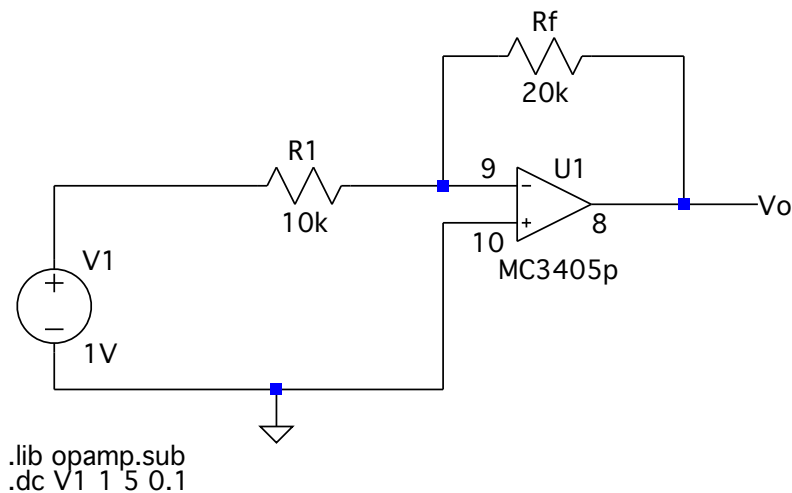
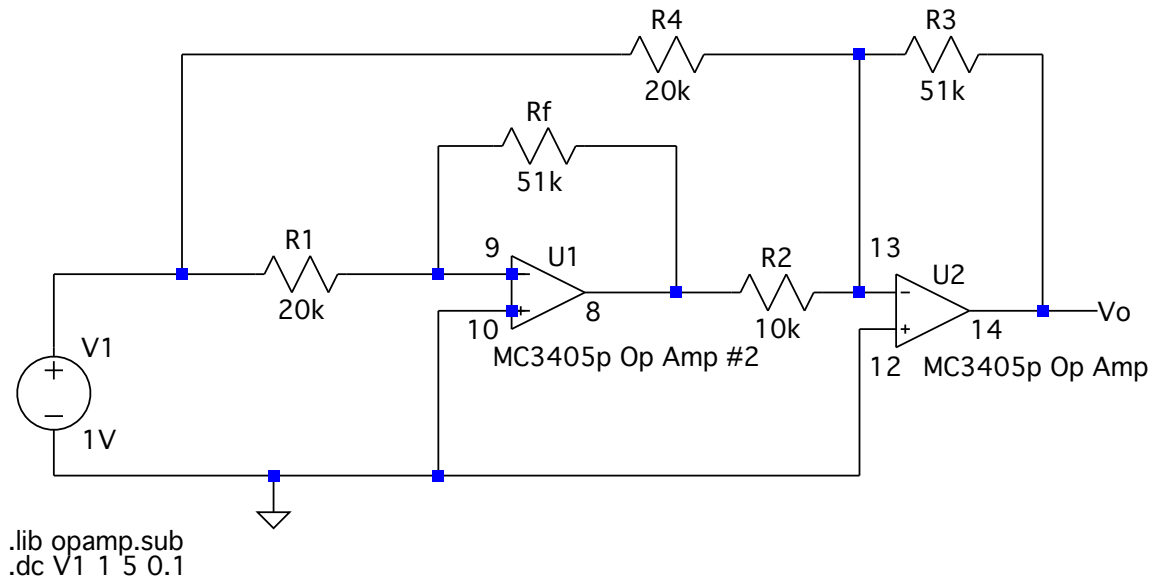

Figure 3 Single Op Amp Circuit for Voltage Gain Measurement
Figure 5 Cascaded Op Amp Circuit
The prelab work for this experiment consists of simulating the circuits of Figure 3 and Figure 5 in LTSPICE or equivalent software. As with earlier labs in this series, LTSPICE is used as the standard.
- 4) Place the other elements of Figure 3, using $R_1 = 10\text{k}\Omega$, $R_f = 20\text{k}\Omega$. You do not need to worry about the pin numbers (labels 8, 9, 10) shown in Figure 3. Label and place the node V_o as shown.
- 7) Construct and simulate the circuit for Figure 5.
- 8) The prelab verification consists of the circuits and figures corresponding to Figure 3 and Figure 5. For the circuit of Figure 3 you may choose any of the resistor combinations required in the lab. You need not simulate every combination in the lab, only one configurations for Figure 3. and one configuration for Figure 5
For this procedure, you will construct the circuit shown in Figure 3, substituting different resistor combinations for R_i and R_f and evaluating the resultant voltage gain, $G = \frac{V_o}{V_f}$.
Use the following procedure to construct the circuit of Figure 3.
- 2) Connect Op Amp 2 (pins 8, 9, 10) as shown in Figure 3. Use $R_1 = R_f = 20k\Omega$. Check your circuit thoroughly before energizing the Agilent voltage source.
- 1) Extend the circuit from Figure 3 as shown in Figure 5, using the other op amp circuit (pins 12, 13, 14) in the MC3405p package. Because the Agilent supply powers the entire chip, you do not need to provide any additional power connections to the Agilent supply.